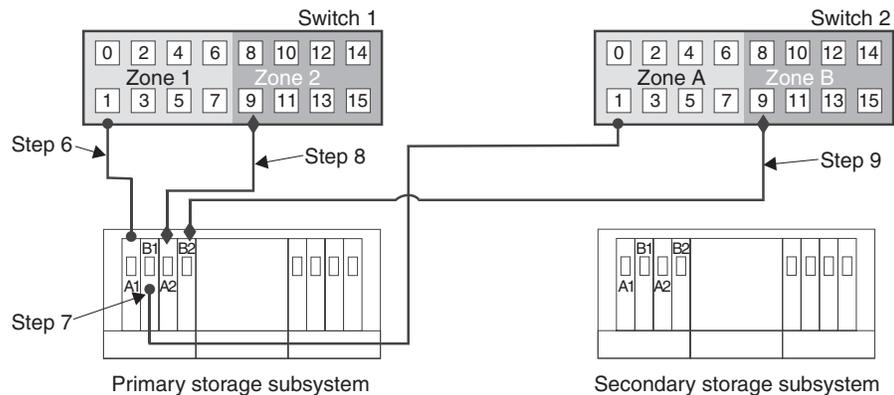

Figure 31. Primary storage subsystem connections to Fibre Channel switches
6. Connect controller port A1 of the of the primary storage subsystem to an available port in Zone 1 of Switch 1, as shown in Figure 31.
7. Connect controller port B1 of the of the primary storage subsystem to an available port in Zone A of Switch 2, as shown in Figure 31.
8. Connect controller port A2 of the of the primary storage subsystem to an available port in Zone 2 of Switch 1, as shown in Figure 31.
9. Connect controller port B2 of the of the primary storage subsystem to an available port in Zone B of Switch 2, as shown in Figure 31.